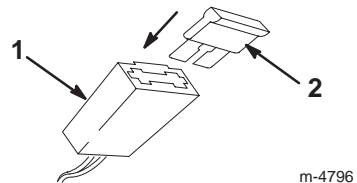

Figure 7
- Install the fuse in the fuse holder as shown in Figure 7.